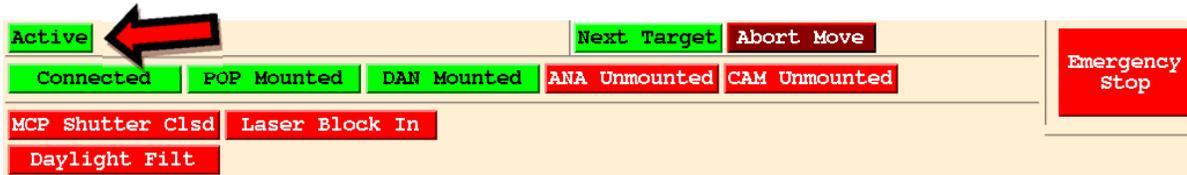

Figure 3-14: Ratgui Connected to Ratsnest and to the POP and DAM NFS shares
- 15. **Verify that Ratgui is actively controlling the system** – Verify that the button in the upper left hand corner of Ratgui shows that the system is active, not inactive. The top part of the interface now should look similar to Figure 3-14.